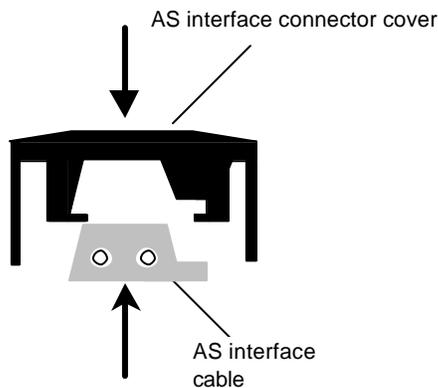

Fig. 1
3. Clamp the yellow and black AS-Interface cable (if provided) in the recess in the underside of the AS-Interface connector (Fig. 1).
- Because of the asymmetrical shape of the AS-Interface cable (profiled), the cable can only be inserted in one way. **Make sure that the connecting cable seats properly in the socket (Fig. 1).**